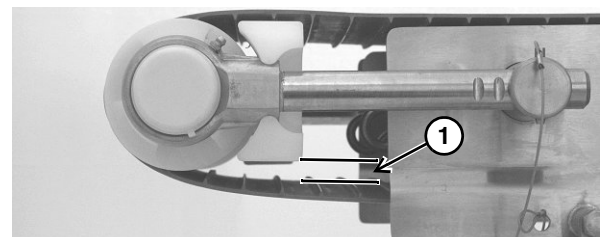

Figure 37
- Some belt sag (Figure 37, item 1) is required for proper operation.